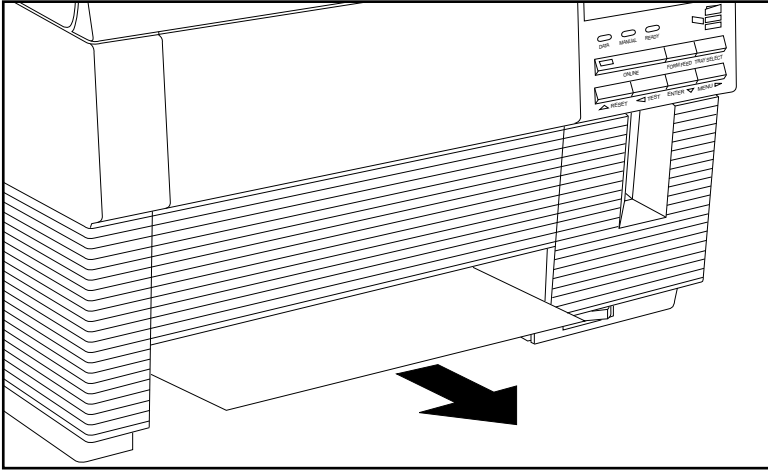

Fig. 10.2 Remove the Jam from the Cassette Slot
2. Check the cassette slot for jammed media. If found, gently pull the media out in the direction of the arrow in figure 10.2.